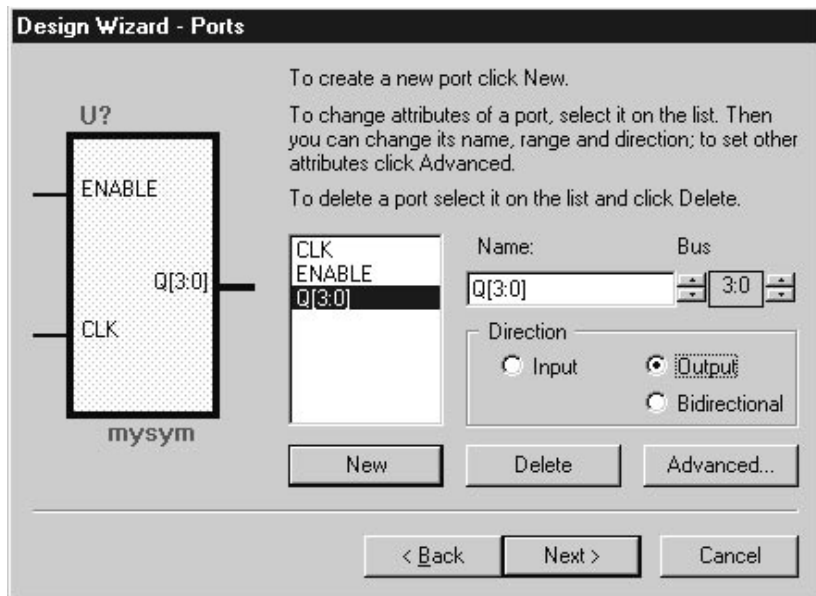

Figure 4-11. Design Wizard - Ports.
- ☐ In the **Ports** window (figure 4-11) add ports to the symbol by clicking on the **New** button, entering port name in the **Name** field and selecting port **Direction**. Selecting clock input type and combinatorial/registered output type can be performed after clicking on the **Advanced** button.